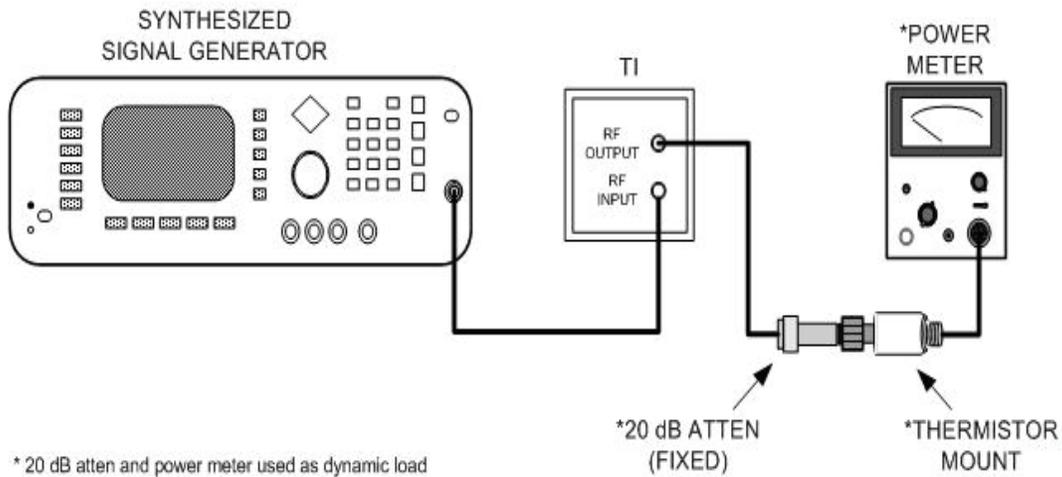
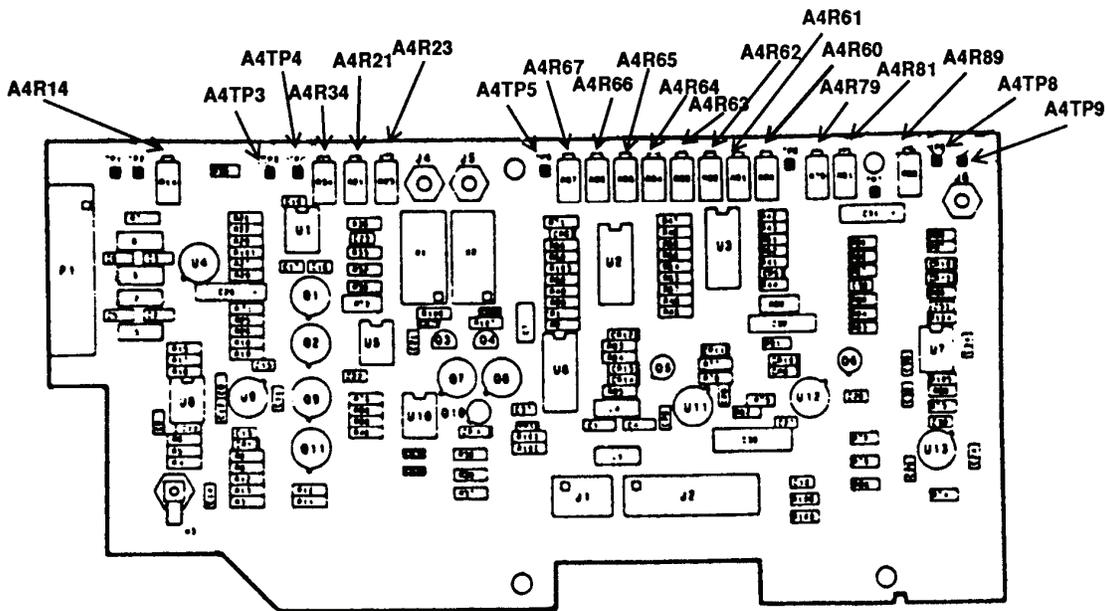

Figure 4. Compensation zero adjustments - equipment setup.
Figure 5. Signal conditioning board - adjustments location.
(1) Connect thermistor mount to point A of figure 4.
(4) Center A4R60 through A4R67 (fig. 5).
(5) Connect multimeter negative lead to A4TP4 (fig. 5) and positive lead to A4TP5 (fig. 5).
(6) Adjust A4R67 (fig. 5) for a multimeter indication between -0.001 and +0.001 V dc.
(7) Connect multimeter positive lead to A4TP3 (fig. 5).
(8) Center A4R14, A4R23, and A4R34 (fig. 5).
(9) Adjust synthesized signal generator level output controls for a multimeter indication between -0.001 and +0.001 V dc.
(10) Adjust A4R81 (fig. 5) for a 0.0 dBm indication with a blinking minus sign on TI display (R).
(11) Adjust synthesized signal generator level output controls for multimeter indication between 1.197 and 1.203 V dc.
(12) Adjust A4R79 (fig. 5) for a TI display indication between 19.9 and 20.1 dBm (R).
(13) Adjust synthesized signal generator level output controls for a TI display indication of 20.0 dBm.
(14) Connect multimeter negative lead to A4TP9 (fig. 5) and positive lead to A4TP8 (fig. 5).
(15) Adjust A4R89 (fig. 5) for a multimeter indication between -0.305 and 0.325 V dc.
(16) Turn synthesized signal generator RF output off.
(17) Connect multimeter (ac mode) negative lead to A4TP4 (fig. 5) and positive lead to A4TP3 (fig. 5).
(18) Adjust A4R34 (fig. 5) fully cw.
(19) Adjust A4R14 (fig. 5) for a maximum indication on digital voltmeter (typically 70 mV rms).
(20) Turn synthesized signal generator RF output on.
(21) Disconnect 20 dB attenuator (fixed) from figure 4 equipment setup.
(22) Connect TI **RF OUTPUT** to power meter (fig. 4).
(23) Adjust synthesized signal generator level output controls for a 0 dBm indication on power meter.
(24) Adjust A4R21 (fig. 5) for a TI 0.0 dBm indication on TI display (R).
(25) Adjust synthesized signal generator level output controls for a -10 dBm indication on power meter.
(26) Adjust A4R34 (fig. 5) for a -10.0 dBm indication on TI display (R).
(27) Install 20 dB attenuator (fixed) between power meter and TI **RF OUTPUT** (fig. 4).
(28) Determine 20 dB attenuator (fixed) correction factor at 11 GHz from test report. Record correction factor.
0.00 dBm	(29) above	-10.1
(30) Adjust synthesized signal generator level output controls to value recorded in (29) above on power meter.
(31) Adjust A4R23 (fig. 5) for a +20.0 dBm indication on TI display (R).
A4R23 (fig. 5) will be adjusted for best compromise between +10 and +20, indications on TI display.